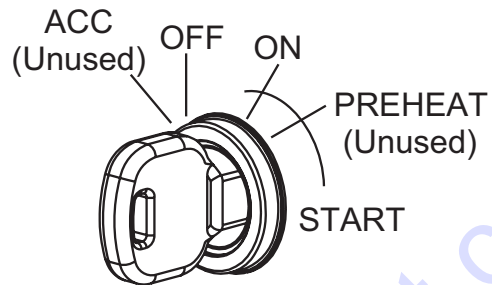

Figure 17. Ignition Switch and Key
2. Insert the ignition key into the ignition switch (Figure 17).